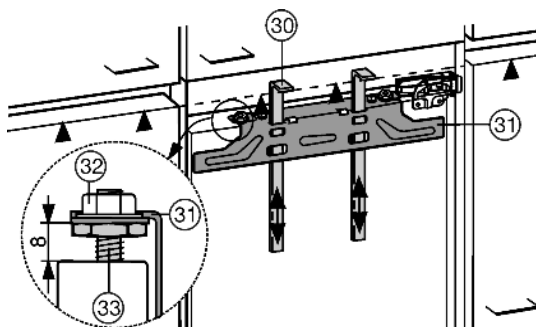

Fig. 20
The fitting aids *Fig. 20 (30)* are required for both doors. Therefore fit the unit doors one after the other.
- ▶ Slide up the assembly aids *Fig. 20 (30)* to the height of the unit door. Lower stop edge ▲ of the assembly aid = upper edge of the unit door to be fitted.